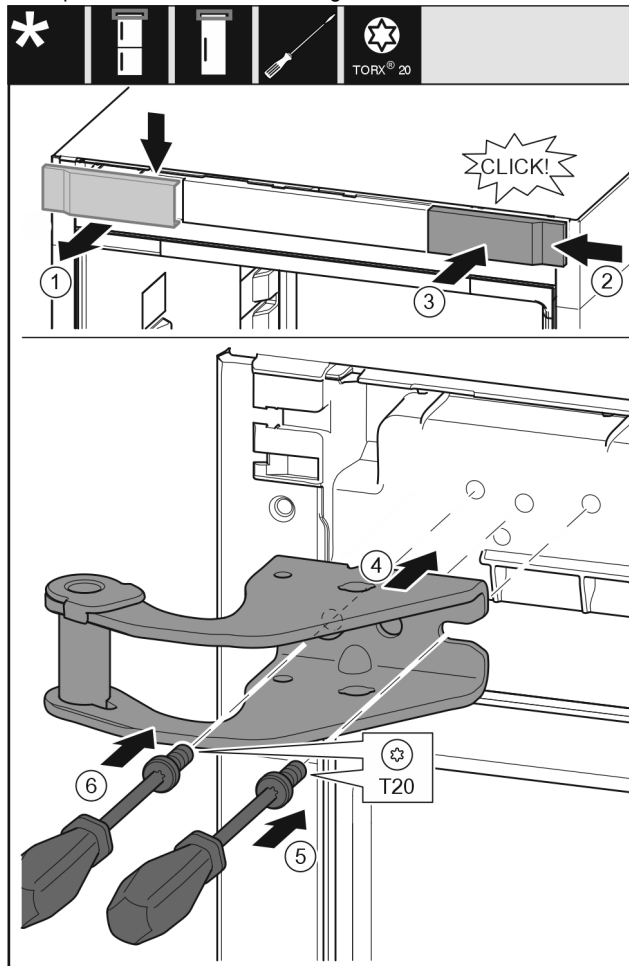

Fig. 10
- ▶ Take off the cover from above to the front. Fig. 10 (1)
- ▶ Rotate the cover 180° and clip onto the other side from the right. Fig. 10 (2)
- ▶ Latch the cover into place. Fig. 10 (3)
- ▶ Position the upper bearing bracket. Fig. 10 (4)
- ▶ Insert the screw with a T20 screwdriver and tighten it. Fig. 10 (5)
- ▶ Insert the screw with a T20 screwdriver and tighten it. Fig. 10 (6)